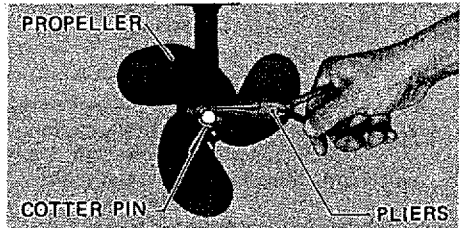

Figure 10
- b. To replace shear pin, shut off motor, remove catter pin with pliers and slip off propeller. (See Figures 10 & 11).